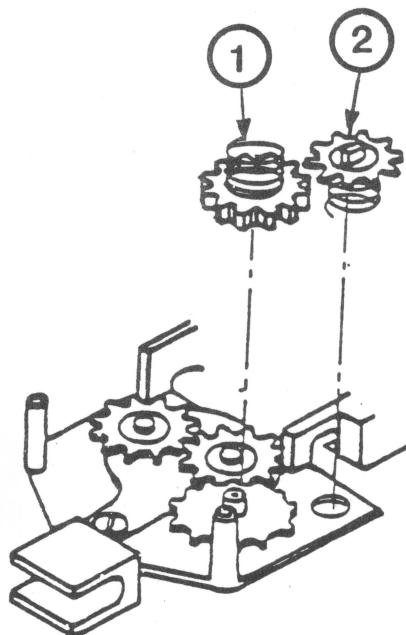

FIGURE 4
**NOTE:** There are springs beneath the cassette mount plate (See Figure 4). They may pop out when you lift up the mount plate.
8. Pull up the ratchet gear and ratchet spring. (See Figure 4, #1.) If they don't come off easily, carefully pry them off with a flat blade screwdriver.